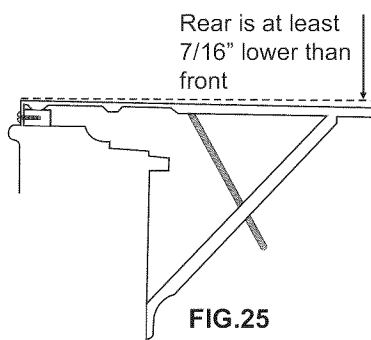

FIG.25
- A projection below the base of the air conditioner will require the rear of the platform to be 7/16" lower than the front to create the 3/16" slant from front to rear (FIG.25).